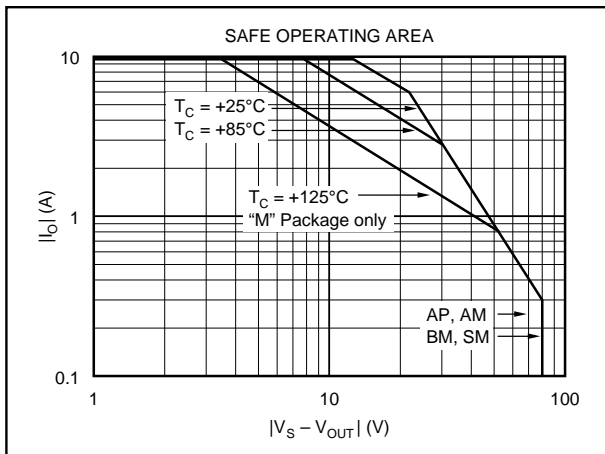

FIGURE 1. Safe Operating Area.
NOTE: (1) SOA is the Safe Operating Area shown in Figure 1. (2) Plastic package may require insulator which typically adds  $1^\circ\text{C/W}$ .
The safe operating area (SOA) plot provides comprehensive information on the power handling abilities of the OPA541. It shows the allowable output current as a function of the voltage across the conducting output transistor (see Figure 1). This voltage is equal to the power supply voltage minus the output voltage. For example, as the amplifier output swings near the positive power supply voltage, the voltage across the output transistor decreases and the device can safely provide large output currents demanded by the load.